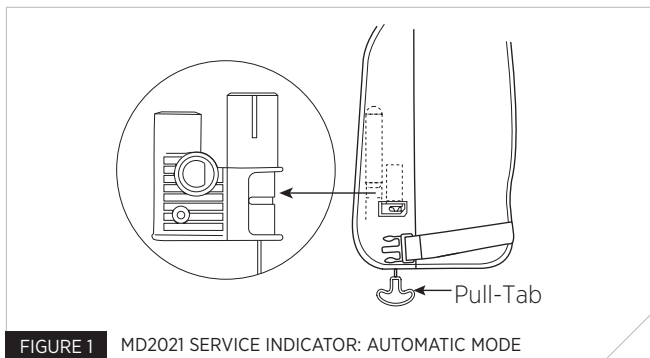

FIGURE 1 MD2021 SERVICE INDICATOR: AUTOMATIC MODE
1. Examine the service indicator through the window panel (Fig. 1). Ensure the service indicator is green. If the service indicator is red, the mechanism has been fired or is incorrectly fitted (See “Re-arming your PFD in Automatic Mode,” page 9, or “Re-arming your PFD in Manual Mode,” page 12).
5. Ensure the service indicator is green and the pull-tab lanyard is hanging on the outside (Fig. 1); secure the Velcro™ strips on both sides of the PFD.
- Ensure the inflation pull-tab is hanging on the outside (Fig. 1)
3. Examine the service indicator (Fig. 1). If the service indicator is red, the mechanism has been fired or is incorrectly fitted and the inflator requires service (see “Re-arming your PFD in Automatic Mode,” page 9, or “Re-arming your PFD in Manual Mode,” page 12).